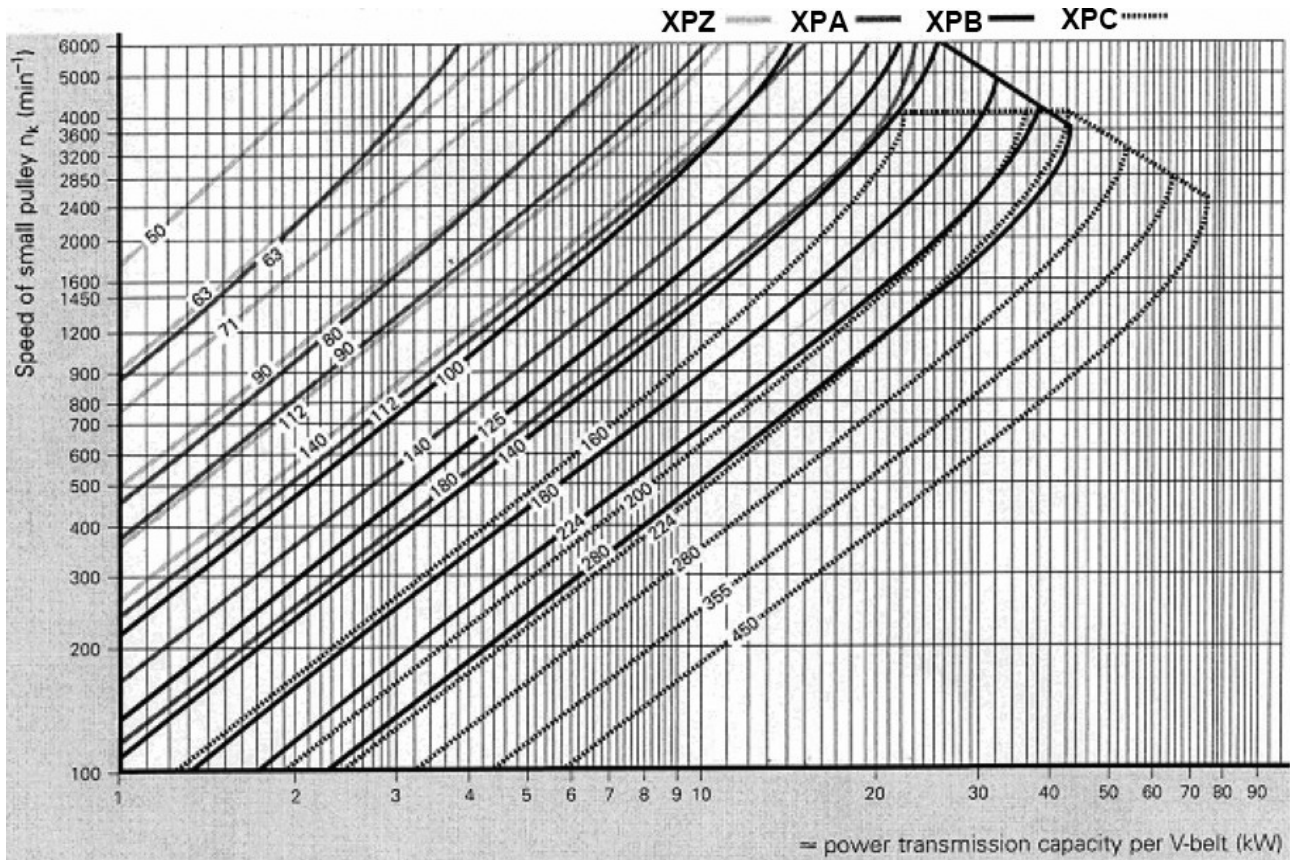
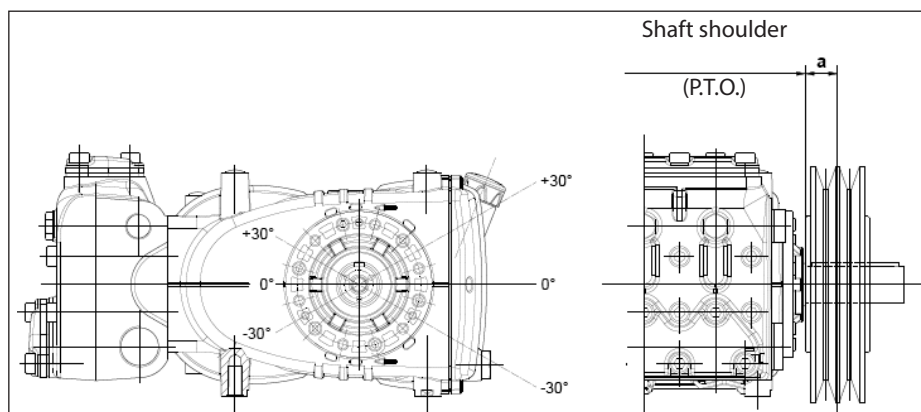

Fig. 7
Fig. 10
For this pump model, we recommend use of 4 XPB belts (16.5x13 serrated). Use an XPC profile only for long durations. Both the characteristics and transmissible power of each belt can be verified in the diagram in Fig. 7, in relation to the number of rpm normally declared by the manufacturer. Minimum duct pulley diameter (on pump shaft): ≥ 250 mm. The radial load on the shaft must not exceed 7500 N (value necessary for Layout definition). The transmission is considered adequate if the load is applied to a maximum distance $a=40$ mm from the shaft shoulder (P.T.O.) as shown in Fig. 10.
- b) Use high performance belts – for example **XPB** instead of **SPB** – as a lower quantity of belts for the same transmitted power may be necessary and a consequent shorter resulting distance compared to the shaft shoulder (P.T.O.) "a" of Fig. 10.